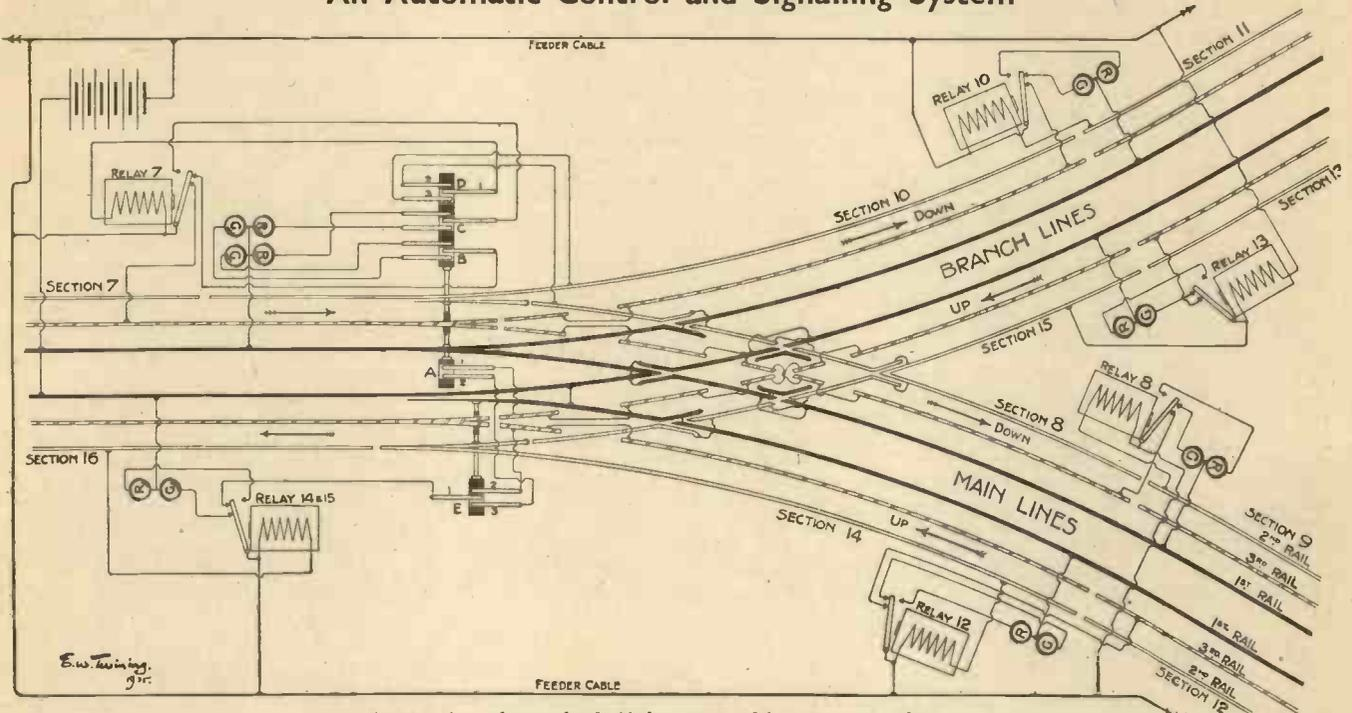

Fig. 4.—A set of points for double lines arranged for automatic working.
The lay-out of a double set of points to main and branch lines is shown in Fig. 4. In this is included the relays controlling the block sections on either side of the points, with the additional contacts on the point rods already referred to.
(2) An UP BRANCH train will stop an UP MAIN train or (3) vice versa, through the medium of switch leaves E, according to the position in which the points are set. If the points are as shown in Fig. 4 the current path is broken to the third rail of section 14, and flows to section 15. If trains enter sections 14 and 15 simultaneously, one of them will be stopped according to the point setting. It is possible, therefore, by setting points early,
(4) In order to render this impossible, the point tongues of the second rails must be interrupted or insulated. It will be seen from the diagram that if they were not insulated, when a DOWN BRANCH train was stopped in section 10, or for some reason had not cleared the section, and a following train wished to pass to the DOWN MAIN—section 8—it could not proceed even when the points were set over for it, because the point tongue would put the second rail of section 10 in connection with that of section 8 and the switch leaf D2 would be inoperative. Consequently, the third rails of sections 7 and 8 would remain dead through relay 7 remaining energised. With an insulated point tongue, even if a train is in section 10, the opening of the points to the DOWN MAIN line changes over switch tongues D1-3 to D1-2, which causes relay 7 to open and restore current to both the third rails.
(5) Here again the insulated point tongue leading to sections 8 and 10 is utilised to prevent this occurring. If the tongue was not insulated and the points were put over to the opposite position to that shown in Fig. 4, immediately after the passage of a DOWN BRANCH train an UP BRANCH train, on entering section 13, would be stopped because relay No. 13 would be actuated in just the same way as it would if section 15 were occupied.
(6) The automatic starting and stopping of the UP trains in sections 15 and 14 is controlled by switch leaves E according to the state of the tongue of the points.
The point tongues are moved by solenoids—coils having sliding cores—a pair of them being inter-connected mechanically. The whole arrangement is shown in Fig. 5, including the electrical switches shown in Fig. 4. It should be made clear that the number of switch springs or leaves here shown are those required for the down
facing points, A, B, C and D, shown in Fig. 4. For the UP trailing points only the three leaf contacts at E, Fig. 4, will have to be fitted. The automatic locking of the tongues, after being moved, is provided for by the form of the ends of the slot in the plate connecting the cores. These slot-ends being parallel with the direction of motion securely hold the lever which actuates the point rod. Each coil of the solenoids should be wound with 4 oz. No. 22 or No. 24 enamelled wire on brass bobbins and housed in casings of soft iron plate, as shown. The base plate and brackets may be of either brass or aluminium.